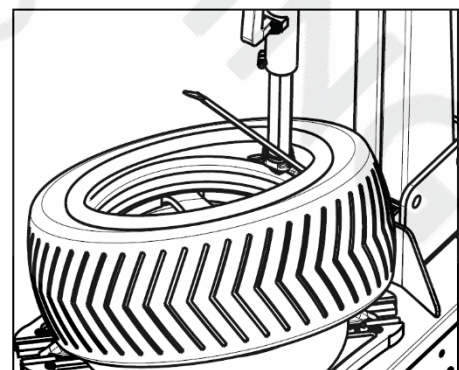

FIG29
- Take out the tube and then move up the lower lip to contact with the upper edge of the rim and detach another lip (FIG29). Step the column tilt pedal (FIG3-10) and the column tilt backwards and at this moment, you can take off the tire.